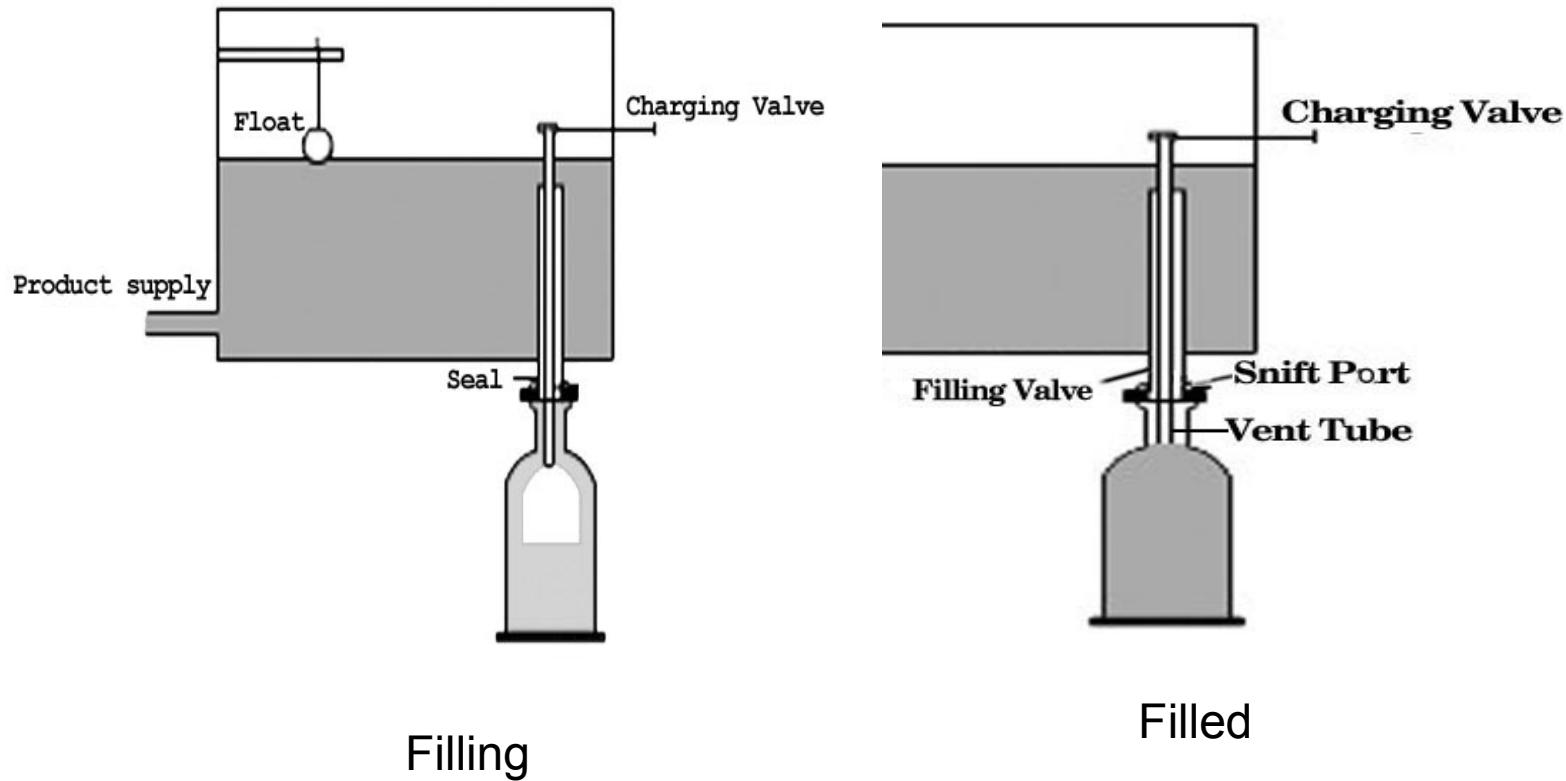

Figure 20.19 Pressure gravity filling
- Pressure gravity filling (Figure 20.19) is a process that was developed specifically to help hold the CO2 in the carbonated beverages during the filling operation.